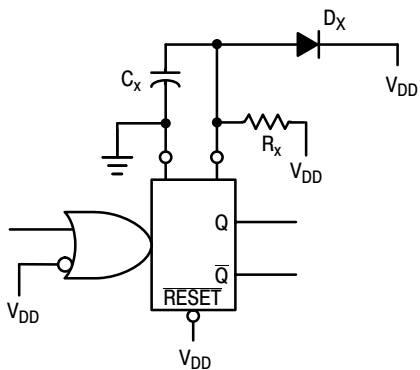

Figure 9. Use of a Diode to Limit Power Down Current Surge
6. If  $C_X > 15 \mu\text{F}$ , Use Discharge Protection Diode  $D_X$ , per Figure 9.